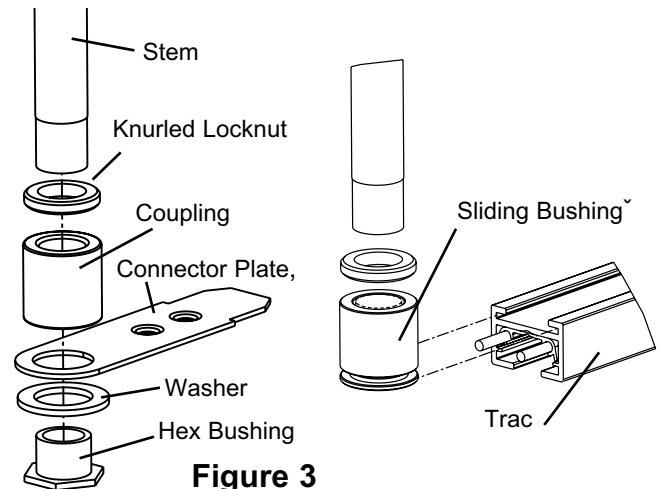

Figure 3
7. Determine if the trac will be supported from a TLVR series connector or from the TLVR series trac extrusion. Select the corresponding components according to Figure 3. The components that are not used can be discarded.
8. If fastening the TLR90 to a connector, make the mechanical connections as shown in Figure 3. Follow the instructions included with the connector for additional mechanical & electrical installation requirements. If fastening the TLR90 to the trac extrusion (support only), fasten the sliding bushing and knurled lock nut to the stem and slide to desired location on track (note: the small plastic grommet can be pushed out of the way by hand if it interferes with the sliding bushing).
5. Determine if the trac will be supported from a TLVR series connector or from the TLVR series trac extrusion. Select the corresponding components according to Figure 3. The components that are not used can be discarded.
6. If fastening the TLR91 to a connector, make the mechanical connections as shown in Figure 3. Follow the instructions included with the connector for additional mechanical & electrical installation requirements. If fastening the TLR91 to the trac extrusion (support only), fasten the sliding bushing and knurled lock nut to the stem and slide to desired location on track (note: the small plastic grommet can be pushed out of the way by hand if it interferes with the sliding bushing).